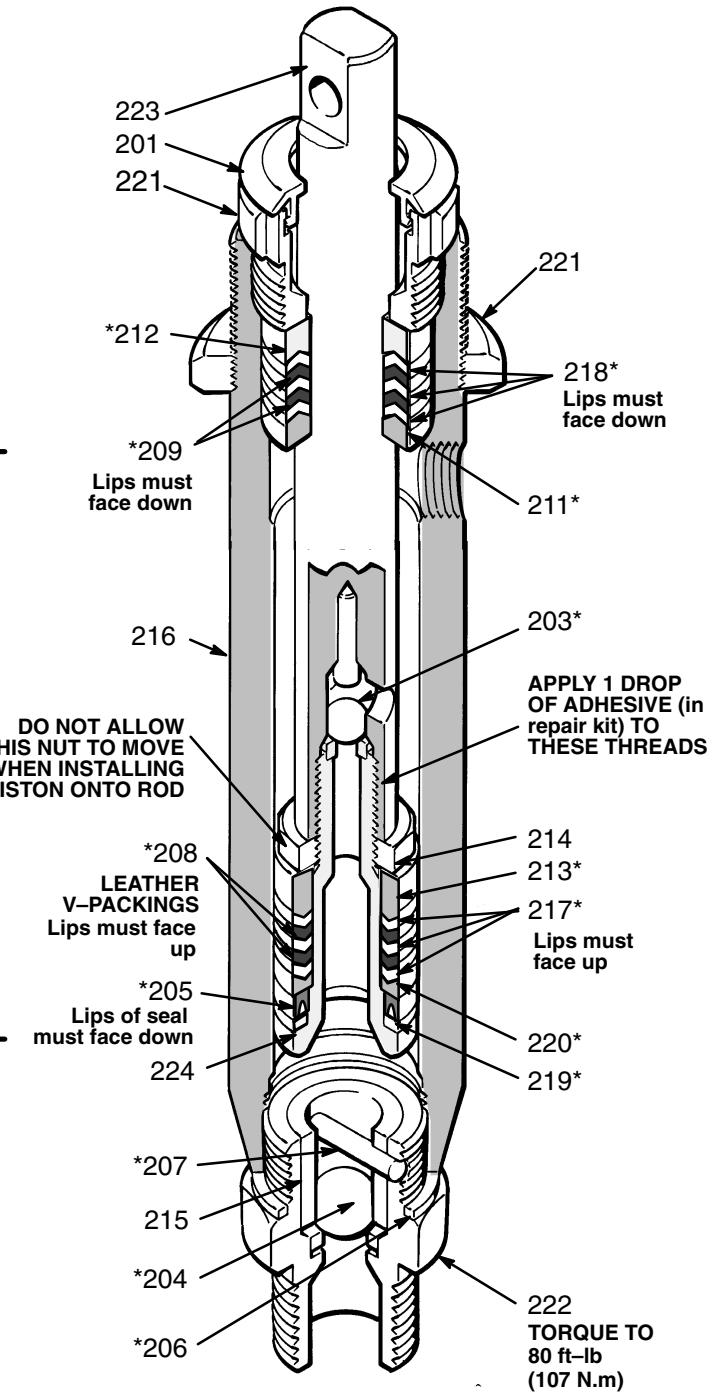

Fig 14
2. Torque the locknut (31) to 70 ft-lb (95 N.m).
**Disassembly.** See Fig 14, except where noted.
- B. Clean all parts thoroughly. Check the outside of the piston rod (223) and the inside of the cylinder (216) for scoring or scratches, which prevent the packings from sealing properly. Replace all worn parts.
- C. Alternate polyethylene and leather packings as shown in Fig 14. Notice that:
1. Stack the backup washer (219\*), U-cup seal (205\*) *lips down*, and female gland (220\*), alternate the polyethylene and leather v-packings (217\*, 218\*) *lips up*, and stack the male gland (211\*) onto the piston valve (224). See Fig 14.
5. Stack the male gland (211\*), alternate the polyethylene and leather v-packings (218\*, 209\*) *lips down* and stack the female gland (212\*) one at a time into the top of the cylinder. See Fig 14.
6. Loosely install the packing nut (221) and plug (201).
7. Insert the oiled piston rod (223) into the bottom of the cylinder.
8. Assemble the intake valve. Use a new gasket (206\*). Screw the valve into the cylinder and tighten to 80 ft-lb (107 N.m). See Fig 14.
9. Screw down the cylinder locknut (31) until it is finger tight at the bottom of the external cylinder threads. See Fig 14.